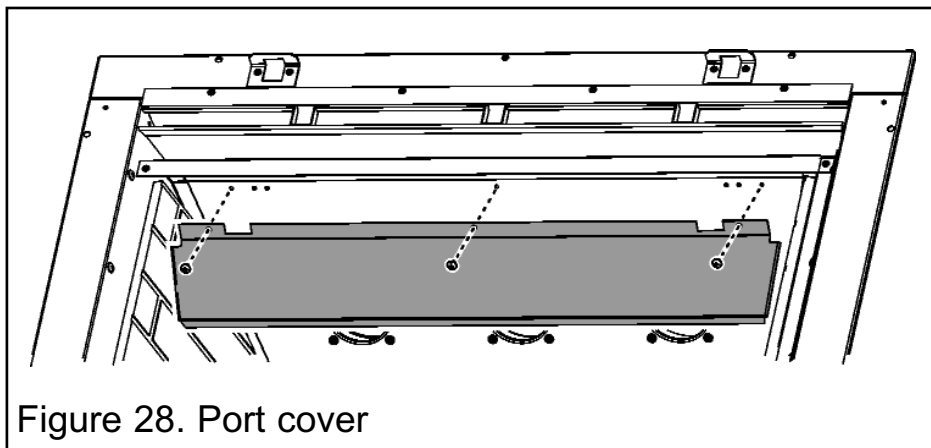

Figure 28. Port cover
The port cover supplied with the fire needs to be fitted to the inner top of the convection box. Locate the port cover, being careful not to scratch the ceramic side walls, and secure with three No. 8 x 3/8" screws supplied (See figure 28).
2. Support the upper port cover, then unscrew and remove the three securing screws (See figure 28). Gently remove the port cover ensuring that the side ceramic side walls are not scratched.